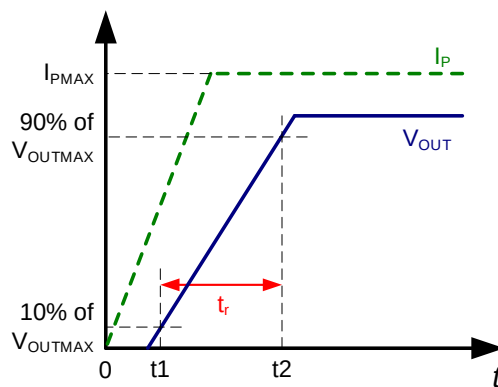

Figure 7: Rising Time (t_R)
2. t_2 : The sensor's V_{OUT} reaches 90% of V_{OUT_MAX} (see Figure 7).